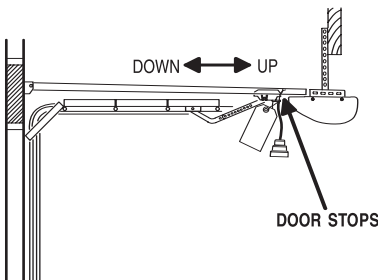

Figure 1 Checking the open limit on sectional
- Move the door in the open direction and wait for the door to stop moving (**Figure 1**).